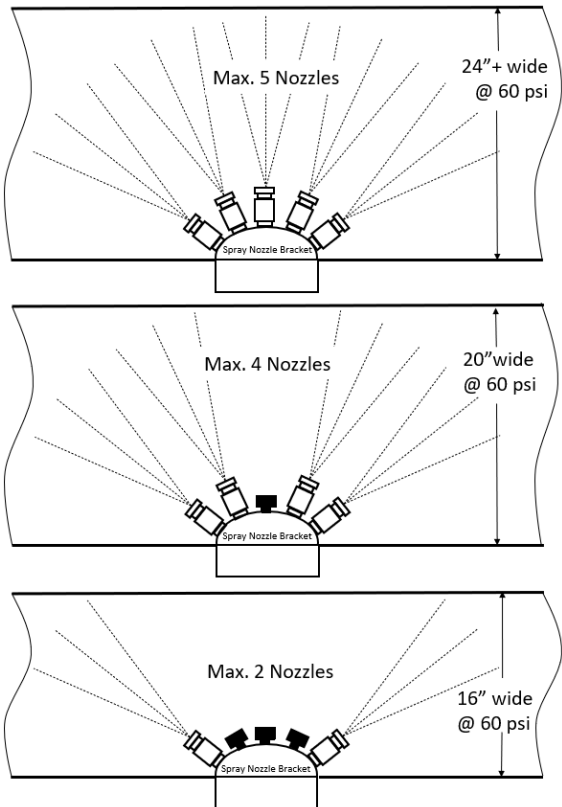

Fig. 8 Duct Width and Number of Nozzles @ 60 psi
Fig. 8 displays recommended nozzle arrangements for various plenum or duct sizes (height $\geq 10''$). Restricting the number of nozzles ensures mist evaporates before reaching the duct wall.
3. **Number of nozzles:** An ideal mounting location should accommodate the installation of a sufficient number of nozzles (maximum of 5). The best location for mounting is typically at a "T-section" above the AC coil in the furnace plenum. If mounted on a horizontal duct with at least 10" height, the number of nozzles will be limited by the duct width as explained in Fig. 8 of the user manual.